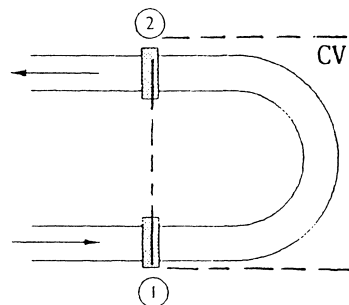

Fig. P3.43
**3.43** Water at 20°C flows through a 5-cm-diameter pipe which has a 180° vertical bend, as in Fig. P3.43. The total length of pipe between flanges 1 and 2 is 75 cm. When the weight flow rate is 230 N/s,  $p_1 = 165$  kPa, and  $p_2 = 134$  kPa. Neglecting pipe weight, determine the total force which the flanges must withstand for this flow.